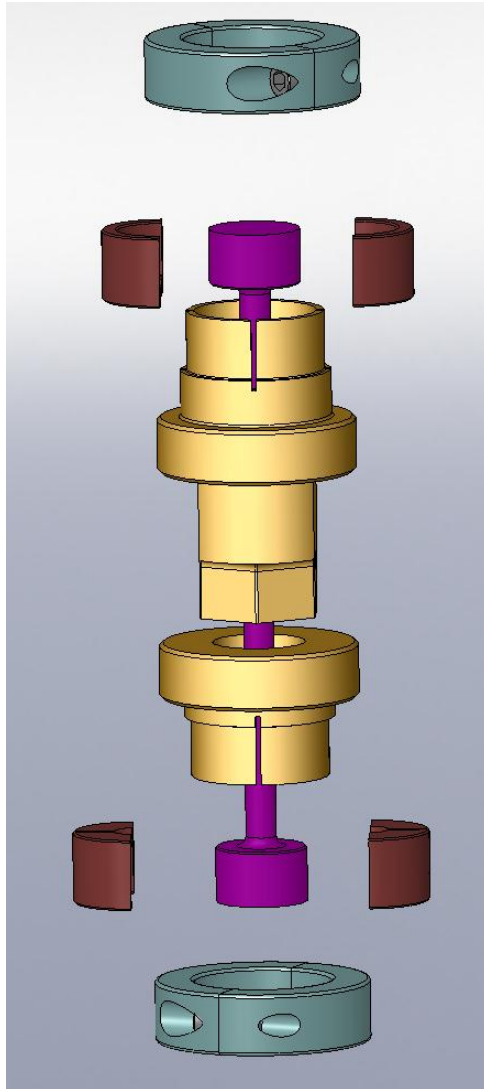
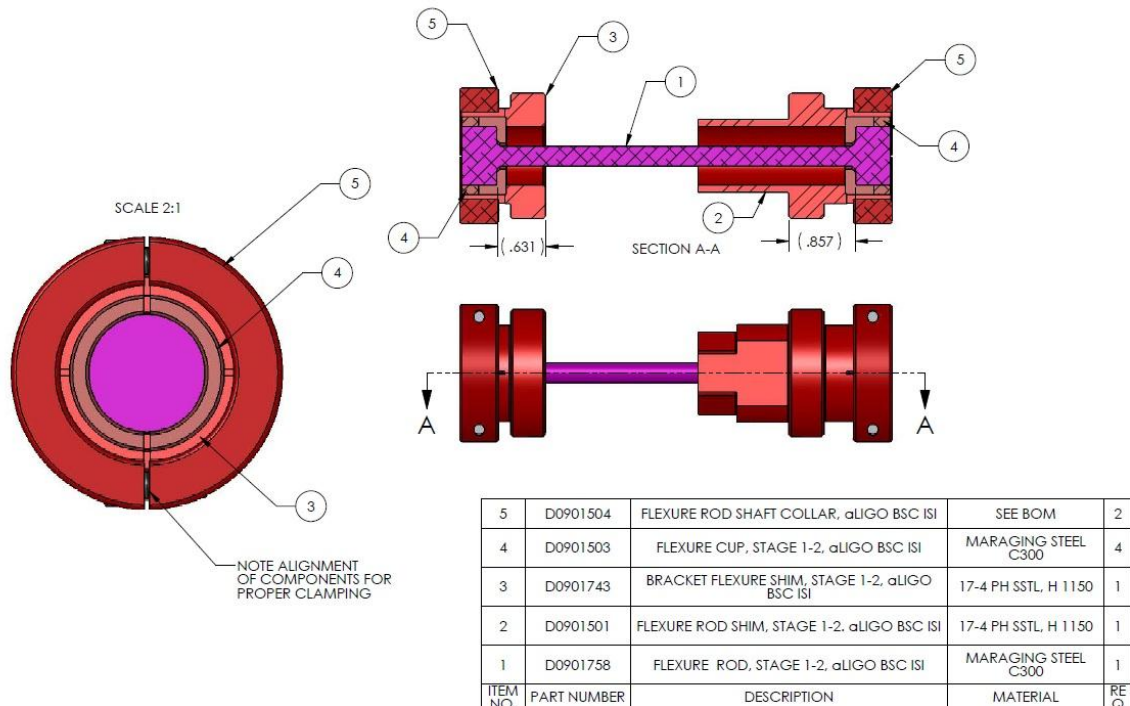

Figure 100: Exploded View of D0902104 Stage 1-2 Flexure Rod Assembly
Figure 101: D0902104 Stage 1-2 Flexure Rod Assembly
- Have (2) D0901503 Stage 1-2 Flexure Cups sit on the bottom head of D0901758.
- Slide D0901743 Stage 1-2 Bracket Flexure Shim in place as shown on Figure 100 & Figure 101.
- Place (2) other D0901503 Stage 1-2 Flexure Cups inside D0901743.